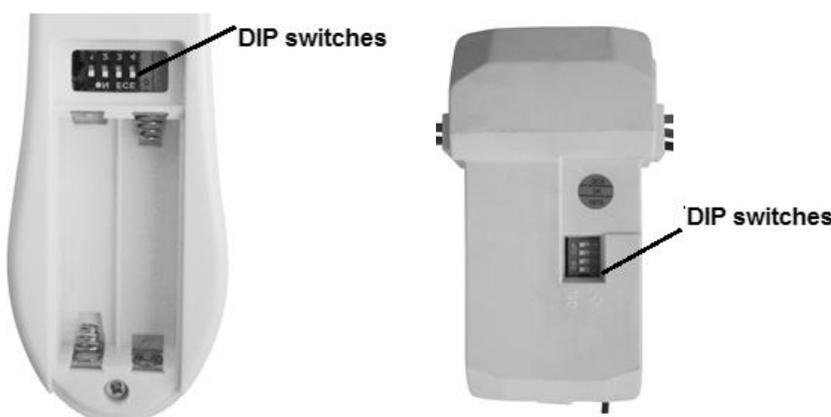

Fig. 8 Remote battery compartment
- 2 x AAA 1.5V (size) batteries are required to operate the remote control. Remove the battery cover from the back of the remote and insert 2 x AAA batteries. Ensure the polarities are correct as shown in the battery compartment. **Fig. 8** (Batteries included.)